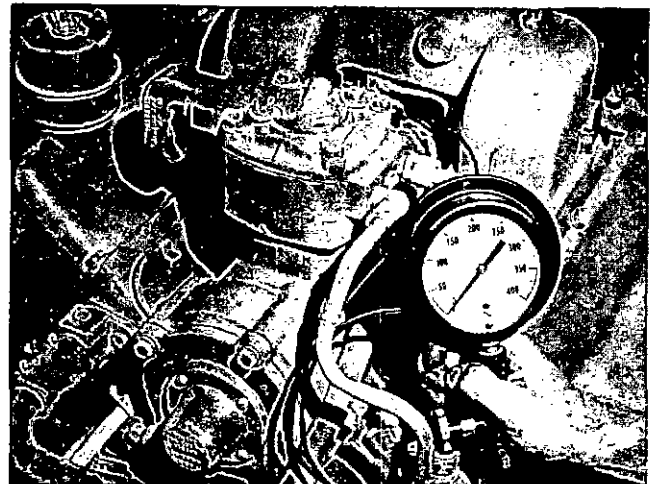

Fig. 5-33, V11917. Checking fuel manifold pressure
1. Check maximum fuel manifold pressure with ST-435 Pressure Gauge. Fig. 5-33. Remove plug from shut-down valve on fuel pump and connect gauge line. Run engine up until governor "cuts in" and check maximum pressure reached. Compare with previous readings to determine if fuel pressure output is satisfactory. Normally this check is required only if loss of power is suspected.